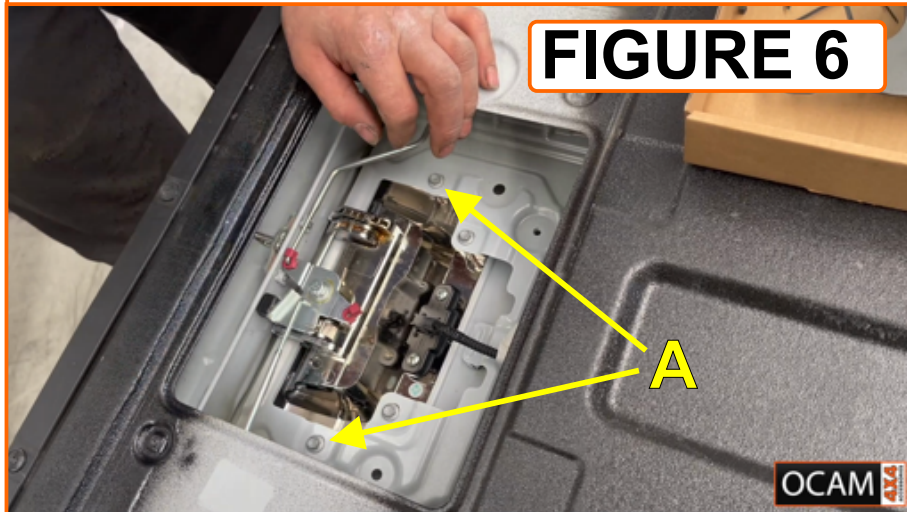

FIGURE 6
Step 5. Locate the two 8mm bolts (**A in figure 6**) unscrew and remove the two bolts..